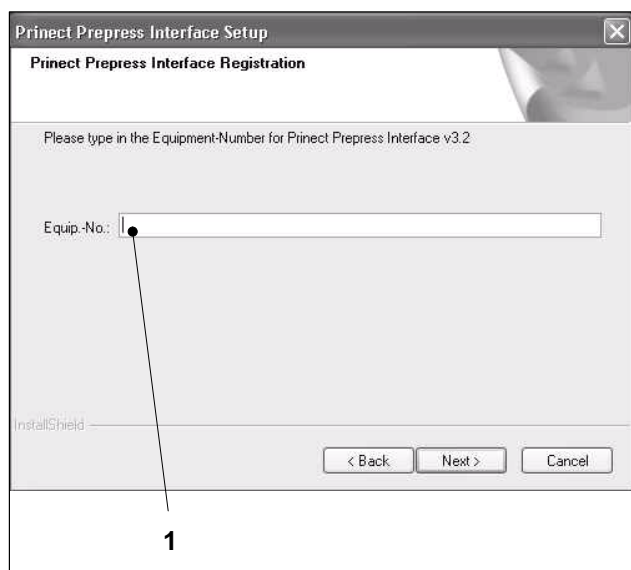

Fig. 8 Registering
The registration window opens (Fig. 8).
13. Enter the correct equipment number into the *Equip. No.* input field (Fig. 8/1).
14. Click on *Next* (Fig. 8).